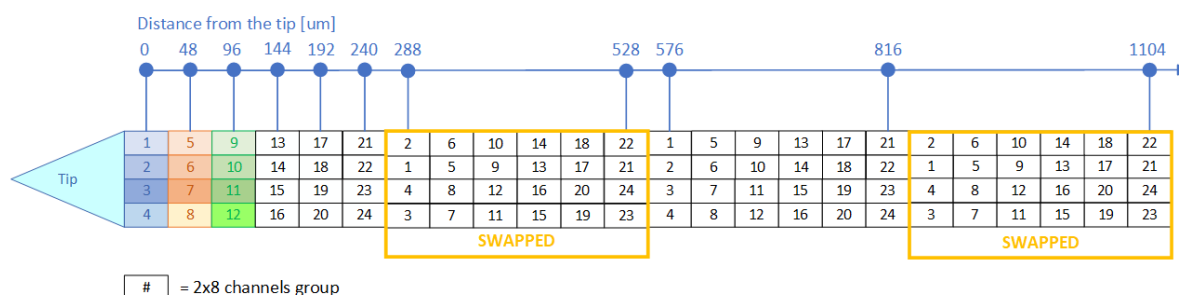

Figure 35: Layout of the shank electrode groups.
The proposed arrangement of groups is shown in Figure 35 below.
*Example:* The arrangement of the first groups in order (i.e. the first 6 columns from the tip in Figure 35) allows for a selection of compact areas, however, to increase the ability to select a longer and narrower continuous area, every 2 groups may be swapped (i.e. 1-2, 5-6, etc) as shown in columns 7 to 12 in Figure 35. This creates the two arrangements named *Direct* and *Swapped* which repeat alternately across the shank.